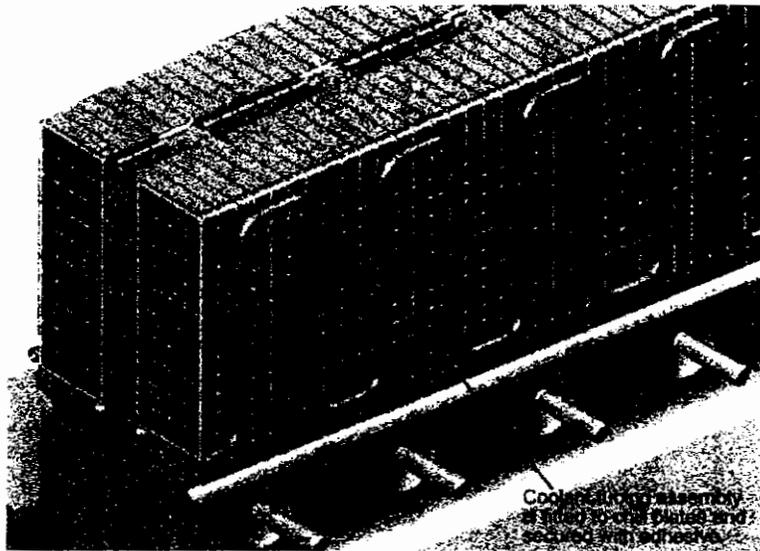

Figure 18- Cooling Tube Sub-Assembly Installation
- 6.30.6 Fitup each section of cooling tube sub-assembly to the outer chill plates using the cooling tube mapping drawings and secure in place with adhesive (Figure 18- Cooling Tube Sub-Assembly Installation). Some customizing of each cooling tube sub-assembly may be required. Ensure that there are no sharp edges or burrs as a result of the customizing activities. Reclean if necessary.